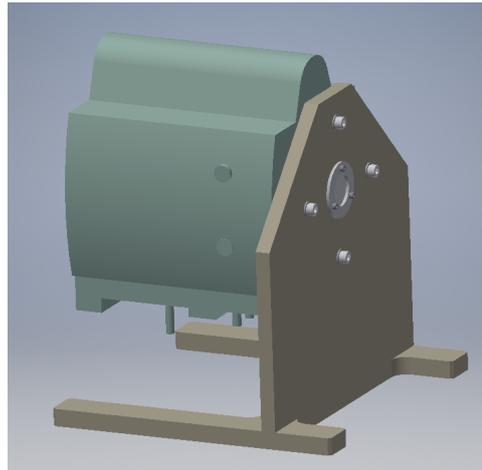

Figure 1: The camera shown attached to the FLC camera mount.
- Attach the camera front face to the FLC camera mount with the four supplied M5 bolts. The mount should be stable with the camera attached (Figure 1).